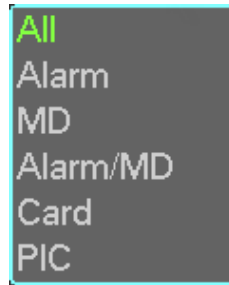

Figure 3-5
- Picture backup.** Set the corresponding time, channel and then select PIC from the dropdown list. See Figure 3-5. Click the **Add** button and then select the pictures. Click the **Start** button to copy the specified pictures to the selected portable devices.